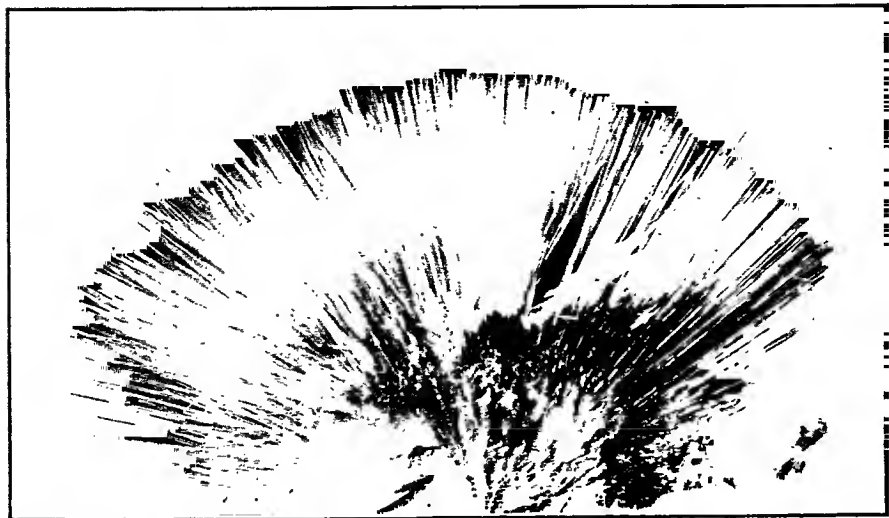

Figure 250. Natrolite, Group of Radiating Crystals, West Paterson, New Jersey.
**Natrolite**, "needle zeolite," figure 250, differs strikingly from all the zeolites previously mentioned, as it usually occurs in slender needles, or radiated-fibrous masses. Its *crystals* are orthorhombic, often nearly square prisms, terminated by quite flat pyramids, which help to distinguish it from scolecite, which often looks much like it. If crystals large enough to cleave are available, prismatic *cleavage* will be found well developed. Its *luster* is vitreous, or somewhat pearly in the fibrous forms. *Color*: almost always white, rarely yellow or red. Magnificent specimens have been found in New Jersey, Bohemia and elsewhere.